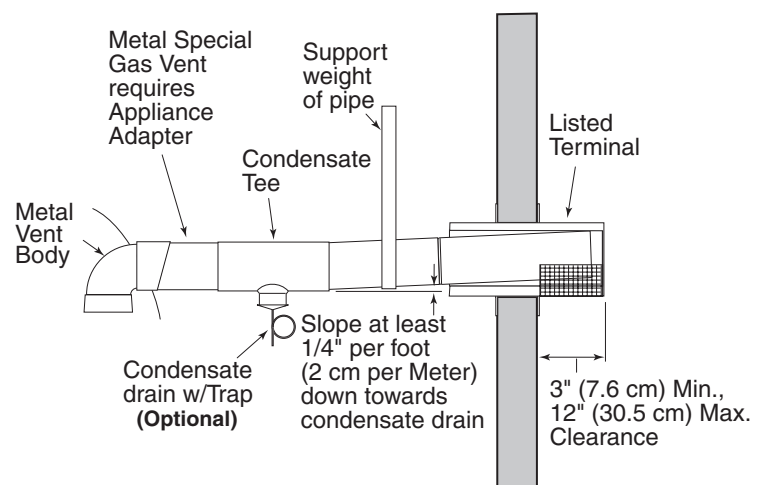

Figure 17.
- at least 3" and at most 12" out from the wall (see Figure 17), following the vent manufacturer's instructions